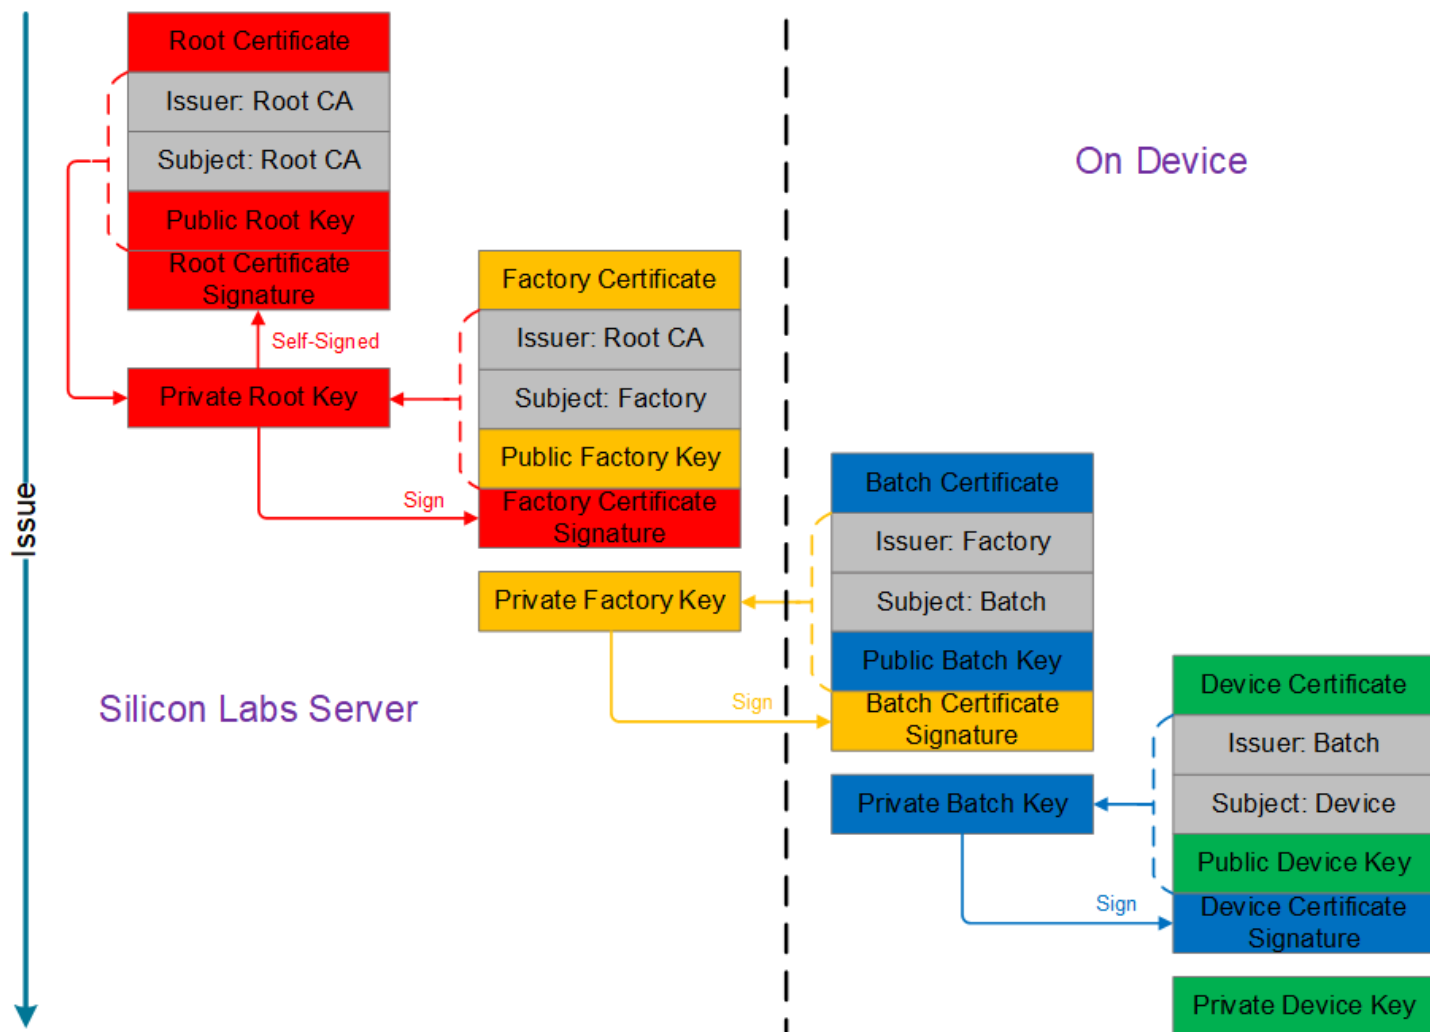

Figure 3.3. Signing for Certificates
- Silicon Labs is a Certificate Authority (CA).
- Each certificate in the chain is signed by the certificate above it (Figure 3.3 Signing for Certificates on page 9).